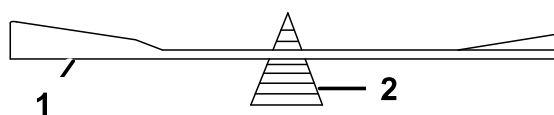

**Figure 51**
1. Use a file to sharpen the cutting edge at both ends of the blade (Figure 51).
**Note:** If the blade is not balanced, file some metal off the end of the sail area only (Figure 51).